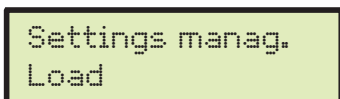

Fig. 80
- Select Load (Fig. 80) and press **OK**;